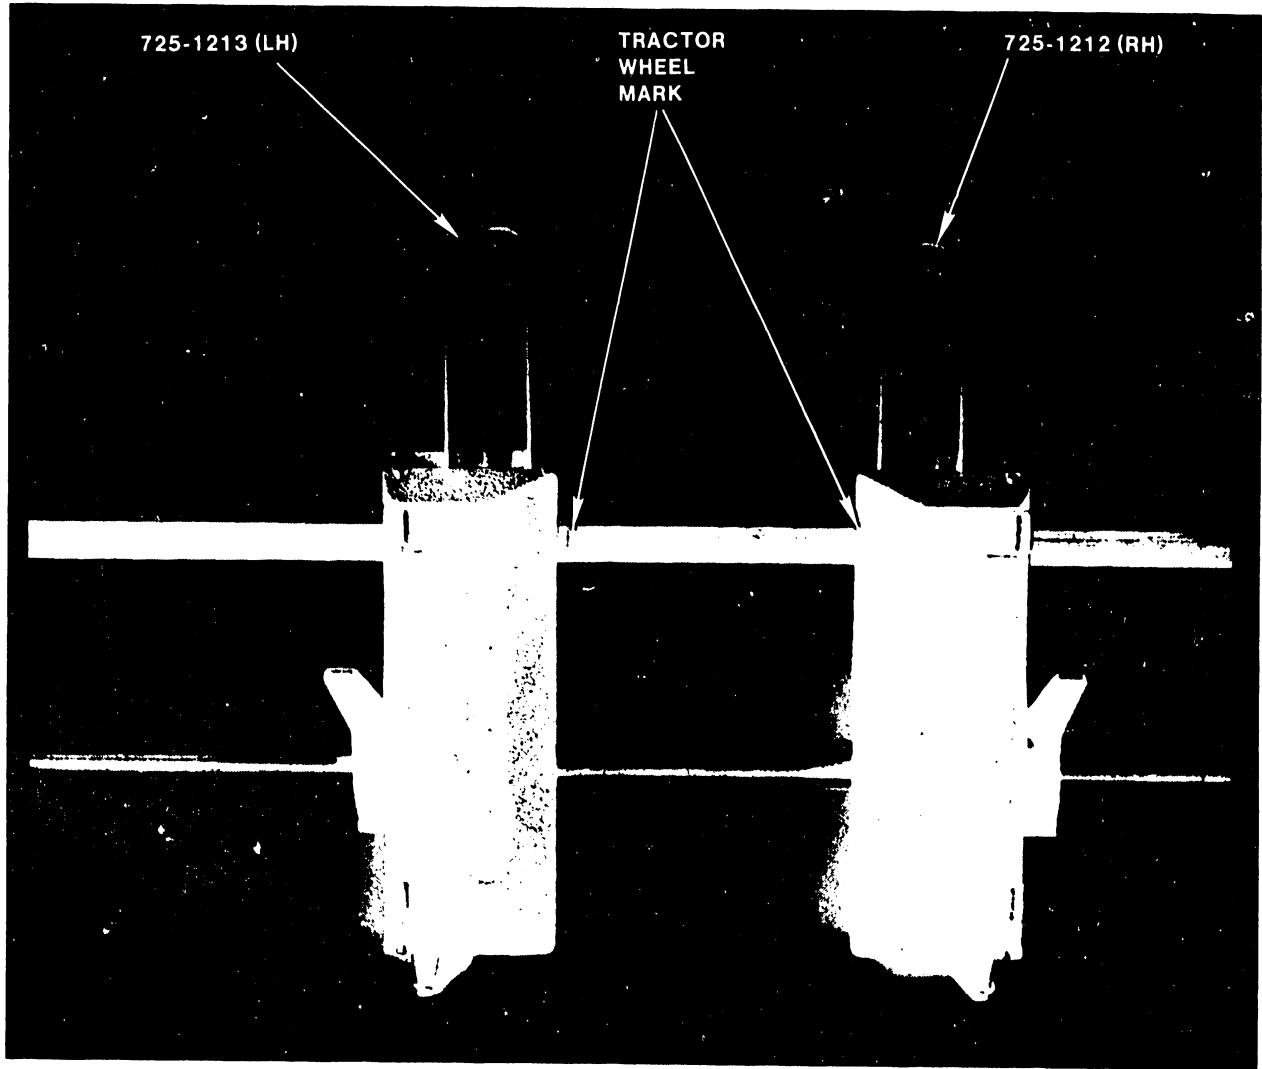

Figure 5-21 Paper Feed Tractor
5.4.15 Paper-Feed Tractor Removal (P/N 725-1212, 725-1213) Figure 5-21.